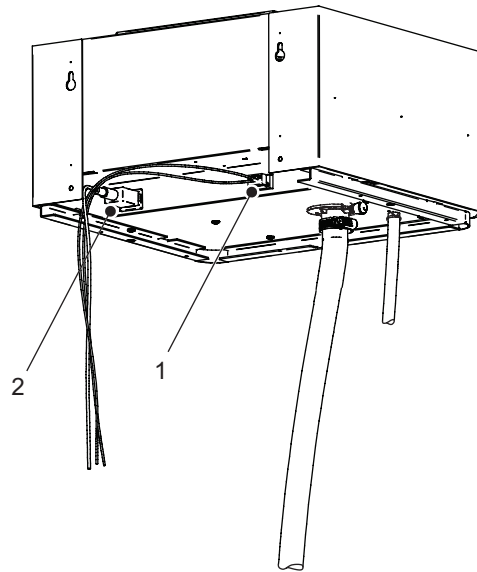

Figure 14: Blower Pack Electrical Connections
- a. Plug the power and security loop cables (supplied) into the back of the blower pack. Refer to Figure 14.